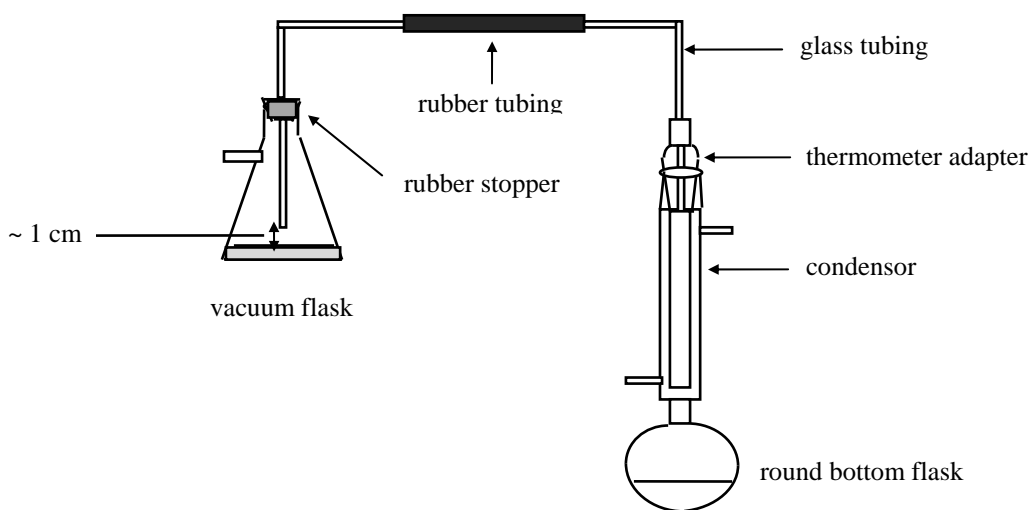

Figure 17.3 Acid-vapour trap
1. Place 24.0 g of tin and 13.0 g of 4-nitrotoluene in a 500-mL round-bottom flask and attach a condenser and an acid-vapour trap (see Figure 17.3). Prepare about 100 mL of sodium hydroxide solution containing 10% more sodium hydroxide than the mass you calculated would be required to neutralize all the hydrogen chloride that will be liberated during this step.